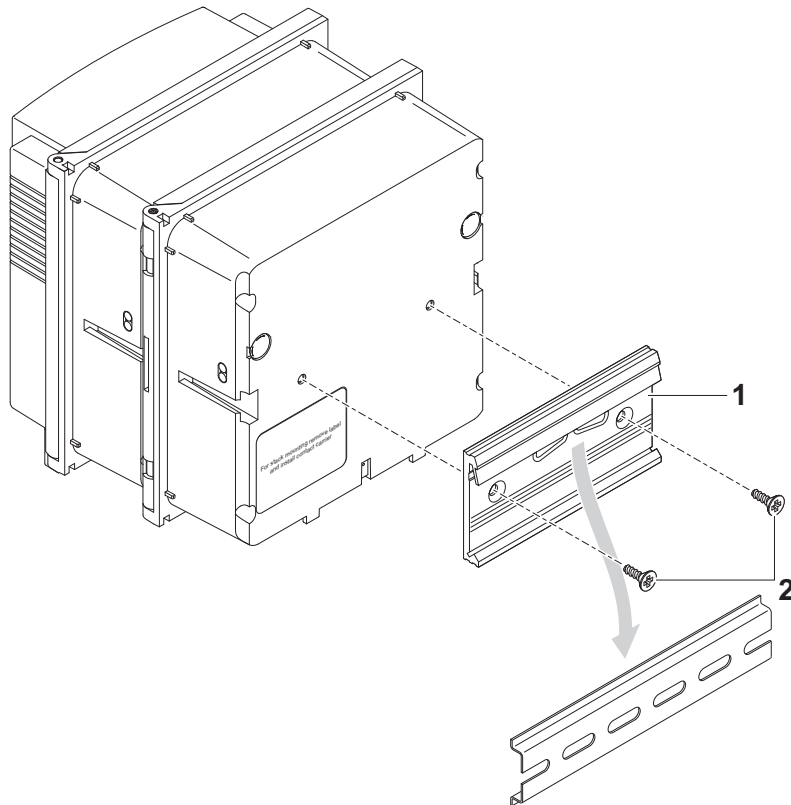

Fig. 3-21 Mount DIQ/S 182-XT-4 on top hat rail mounting
1	Screw the clamping assembly (item 1 in Fig. 3-21) with the two plastic self-tapping screws (item 2) onto the back of the DIQ/S 182 XT-4.